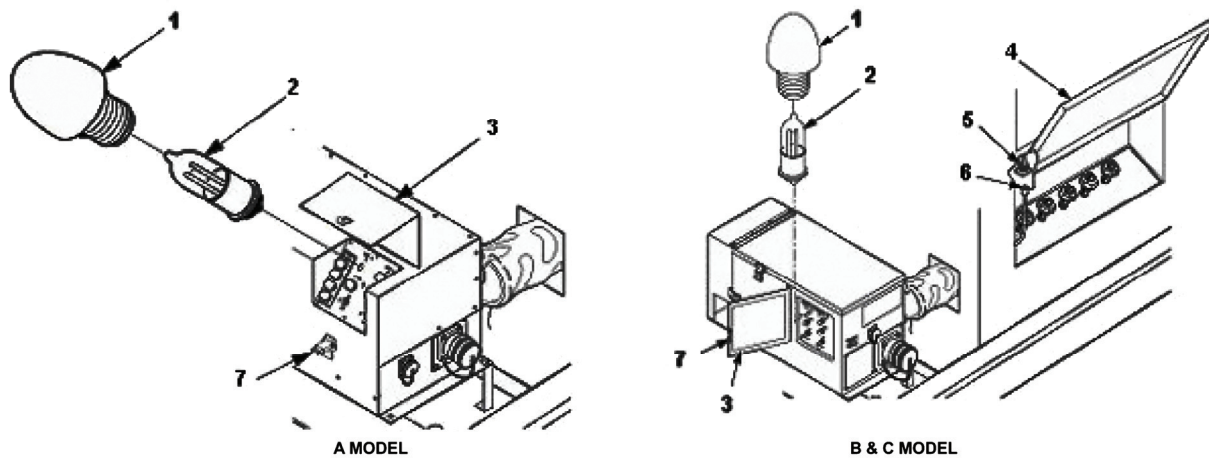

Figure 3-5. Indicator Lamps and P1 Connector Maintenance.
1. Release clamping catch (7, figure 3-5) and open control panel access cover (3).
2. Grip and unscrew lens cap (1).
3. Remove lamp (2) by grasping the base and pulling outward.
1. Open access panel (4, figure 3-5) to unit A generator load terminals.
2. Attach connector P1 (6) to J16 (5) inside generator set.